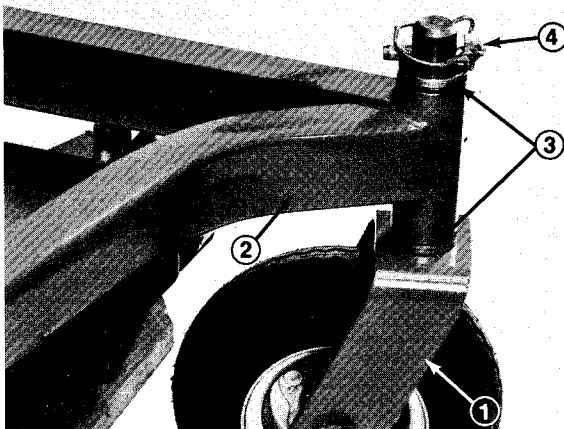

Figure 1
1. Place two thrust washers on each castor wheel shaft (Fig. 1).
2. Insert shafts into carrier frame. Install two more thrust washers and secure with lynch pins (Fig. 1). Grease wheels and carrier shaft bearings.